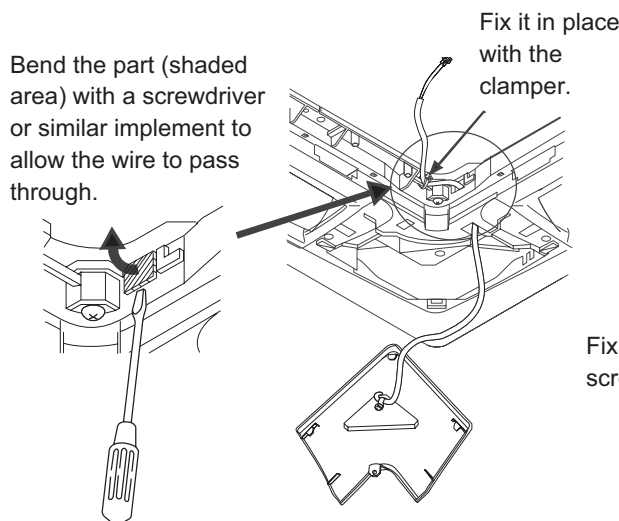

Fig. 1-221
- 3 To pass the wire through the panel, bend the part (shaded area) on the square hole and then pass wire protruding from the wireless receiver through the grill. (Fig. 1-221)
- 4 After wiring according to the directions in "Wiring for the Receiver", leave enough wire length so that the receiver's adjustable corner cover can be removed and fasten the wire with the clamper. (Fig. 1-221)